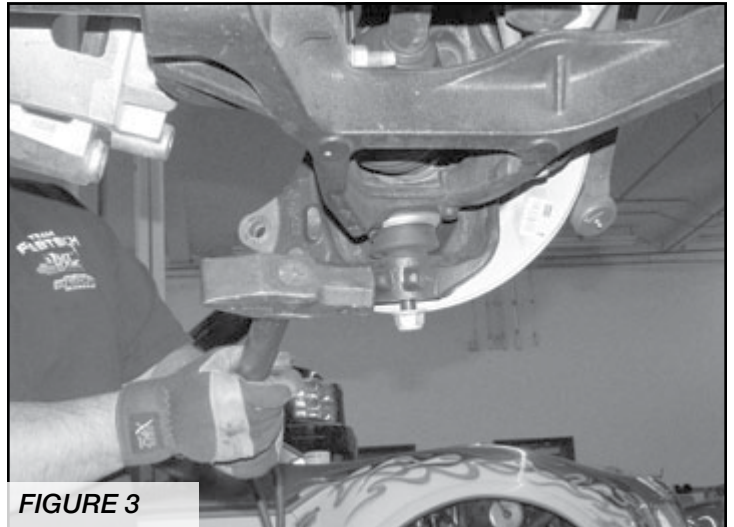

FIGURE 3
7. Remove the upper and lower ball joint nuts. Disconnect the upper and lower ball joints from the steering knuckle by striking the knuckle with a large hammer next to each ball joint on the knuckle to dislodge the ball joints. Use care not to hit the ball joints when removing. Retain nuts and discard knuckle. **SEE FIGURE 3**